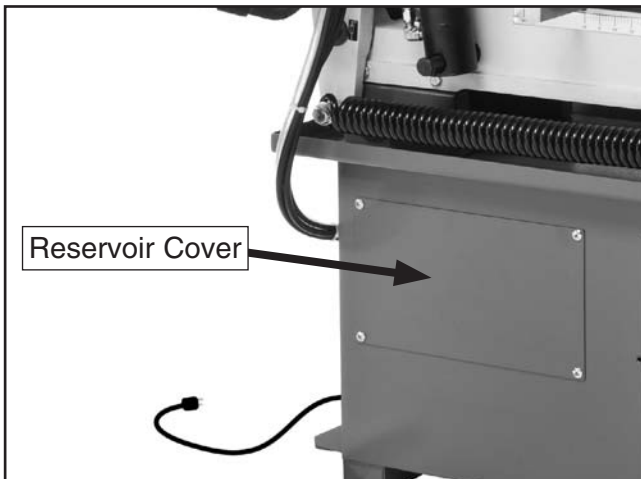

Figure 39. Cutting fluid system reservoir cover.
1. Access the reservoir by removing the rear panel on the base (see **Figure 39**).